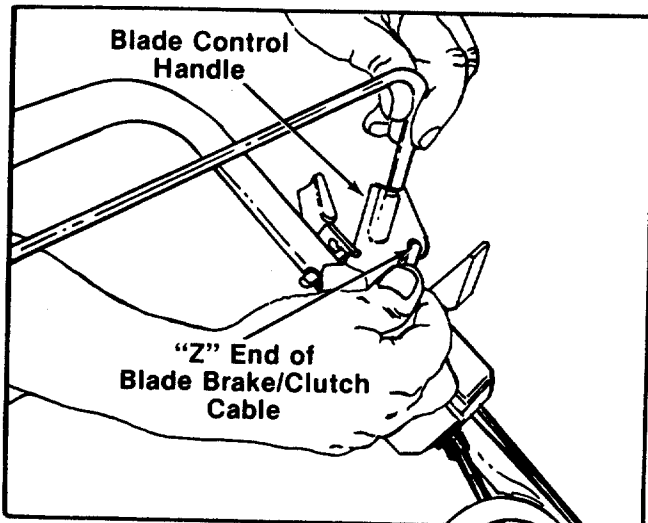

FIGURE 5.
- Hook the "Z" end of the blade brake/clutch cable into the hole in the blade brake/clutch control handle. See figure 5. If additional slack is needed in order to hook the cable into the handle, proceed as follows.